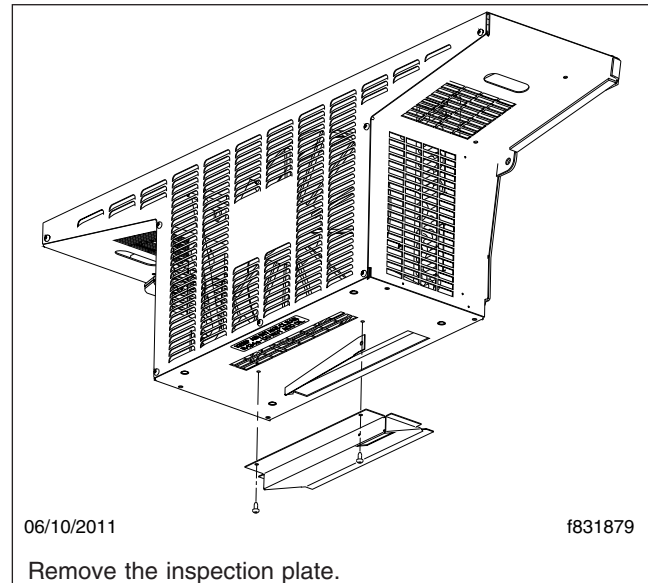

Fig. 15, Condenser Cleaning
1. Remove the inspection plate on the bottom of the condenser module. See Fig. 15.